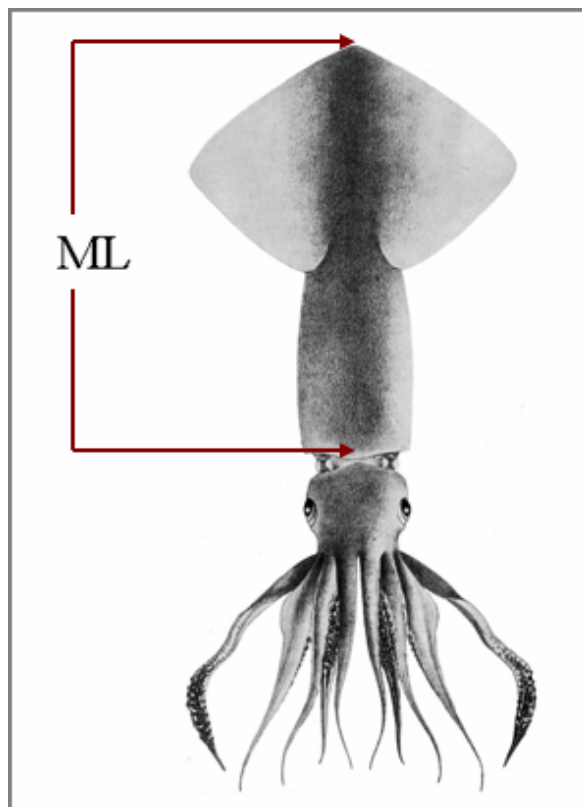

Figure 8 Humboldt squid mantle length
Randomly collect ~20 mantle lengths (ML) per haul. Measure the dorsal side of the organism by placing the squid dorsal side up. The dorsal side of the squid is defined by the fin insertion and the ventral side by the presence of the funnel. Measure the mantle length from the anterior tip of the squid to the posterior edge of the mantle (Figure 8). Only collect squid lengths when you have more than 10 in your sample.